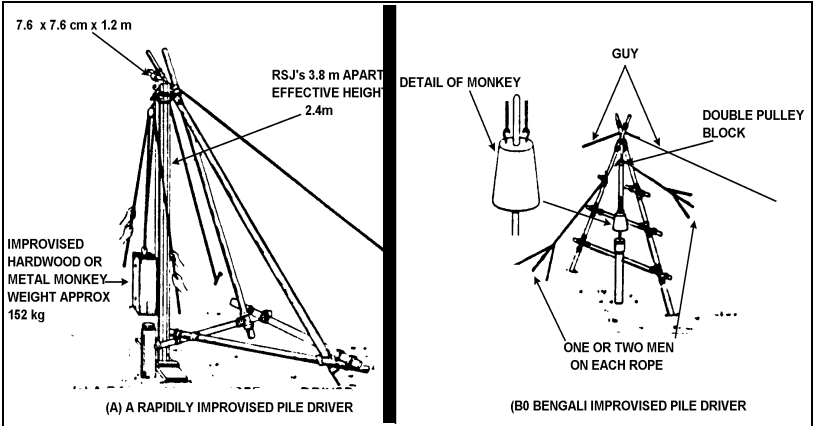

Fig 14-3-8 Improved Pile Drivers
18. Short piles, not exceeding 6 to 8 m, can be driven by improvised methods, provided that a suitable hammer can be found. Fig 14-3-8 shows two methods.